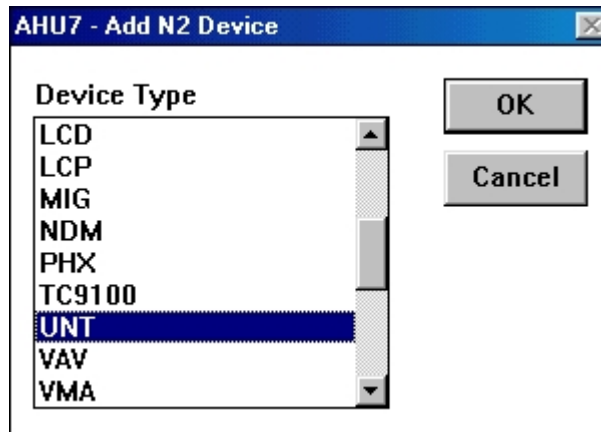

Figure 3-2: Add N2 Device Dialog Box add_n2
5. Highlight UNT in the Add N2 Device dialog box as shown in Figure 3-2.